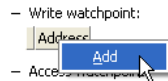

Figure 25. Adding a breakpoint, in this case a write watchpoint, in the **Breakpoints** window.
3. Right-click on the header corresponding to the breakpoint type you want to add. For example, to set a breakpoint that triggers when the processor writes to a particular address, right-click on the write watchpoints table, as shown in Figure 25.